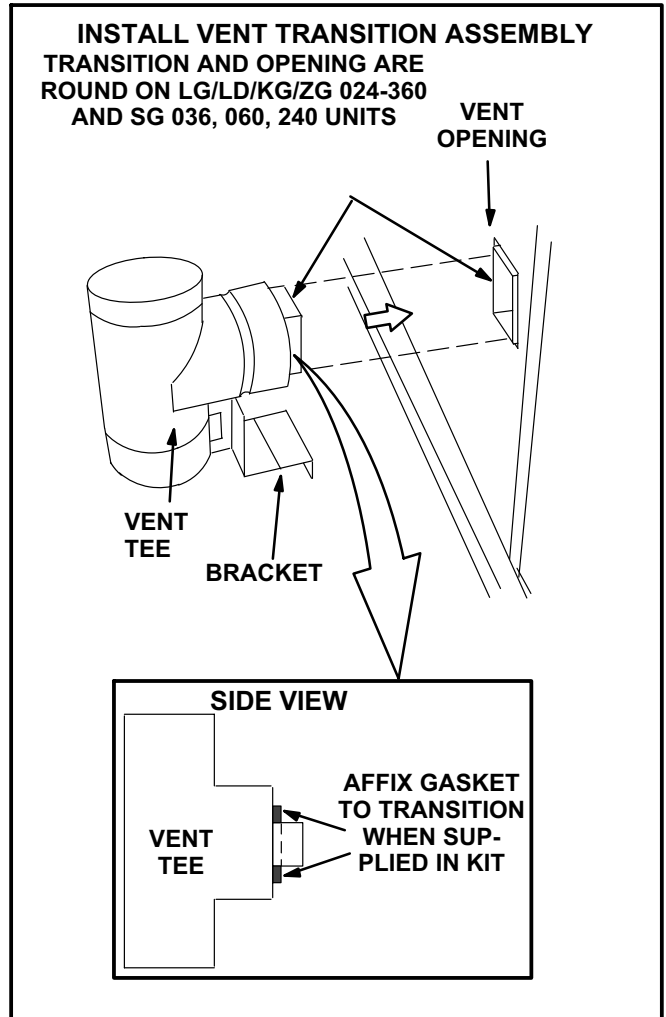

FIGURE 7
- 7- Install vent tee assembly as shown in figures 7 and 8. Make sure the gasket between the transition and the unit forms a good seal to prevent leaks.